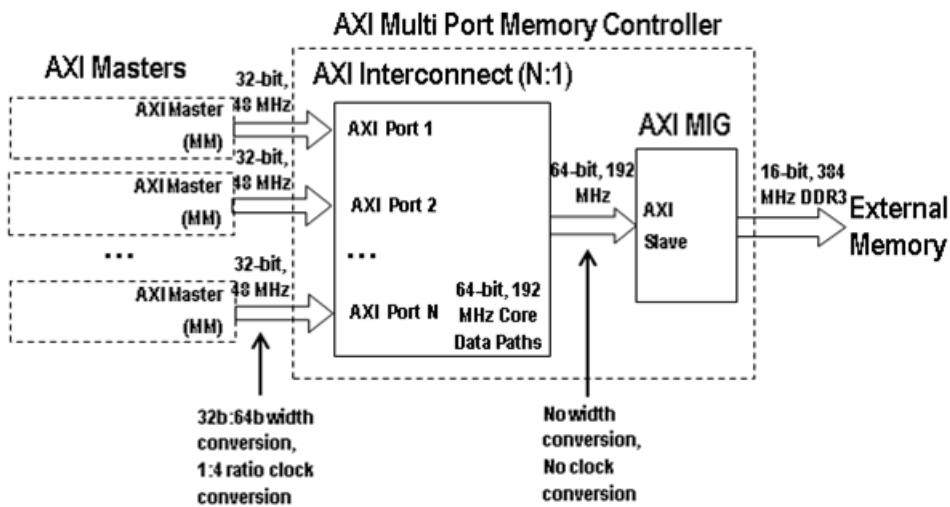

Figure 5-2: AXI Interconnect Master Side Configuration Block Diagram
Figure 5-2 shows an example of the AXI Interconnect master side configuration.
- Is especially useful in situations similar to the example design, shown in Figure 5-2, page 113, where the master has a relatively lower bandwidth than the slave (memory controller).